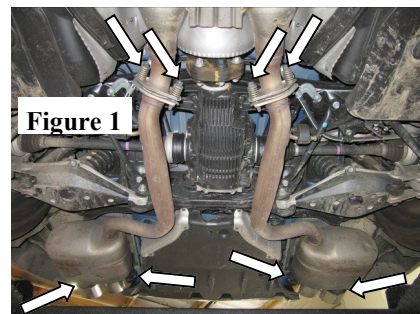

Figure 1
3. Loosen and remove the hardware on the both right-side and left-side rear flanges. Carefully remove hangers from the rubber isolators and remove both rear mufflers from vehicle. (See Fig. 1)